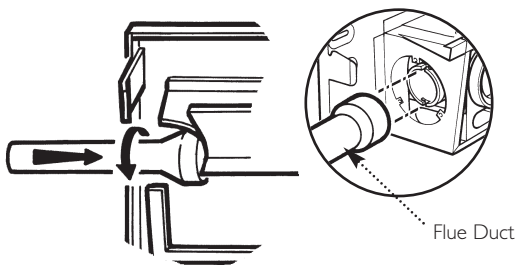

Fig. 55
3. Locate the flared end of the flue duct over the bayonet fitting on the turret, taking care not to damage the 'O' ring. Lock the flue in place by pressing in and turning clockwise (Fig 55).